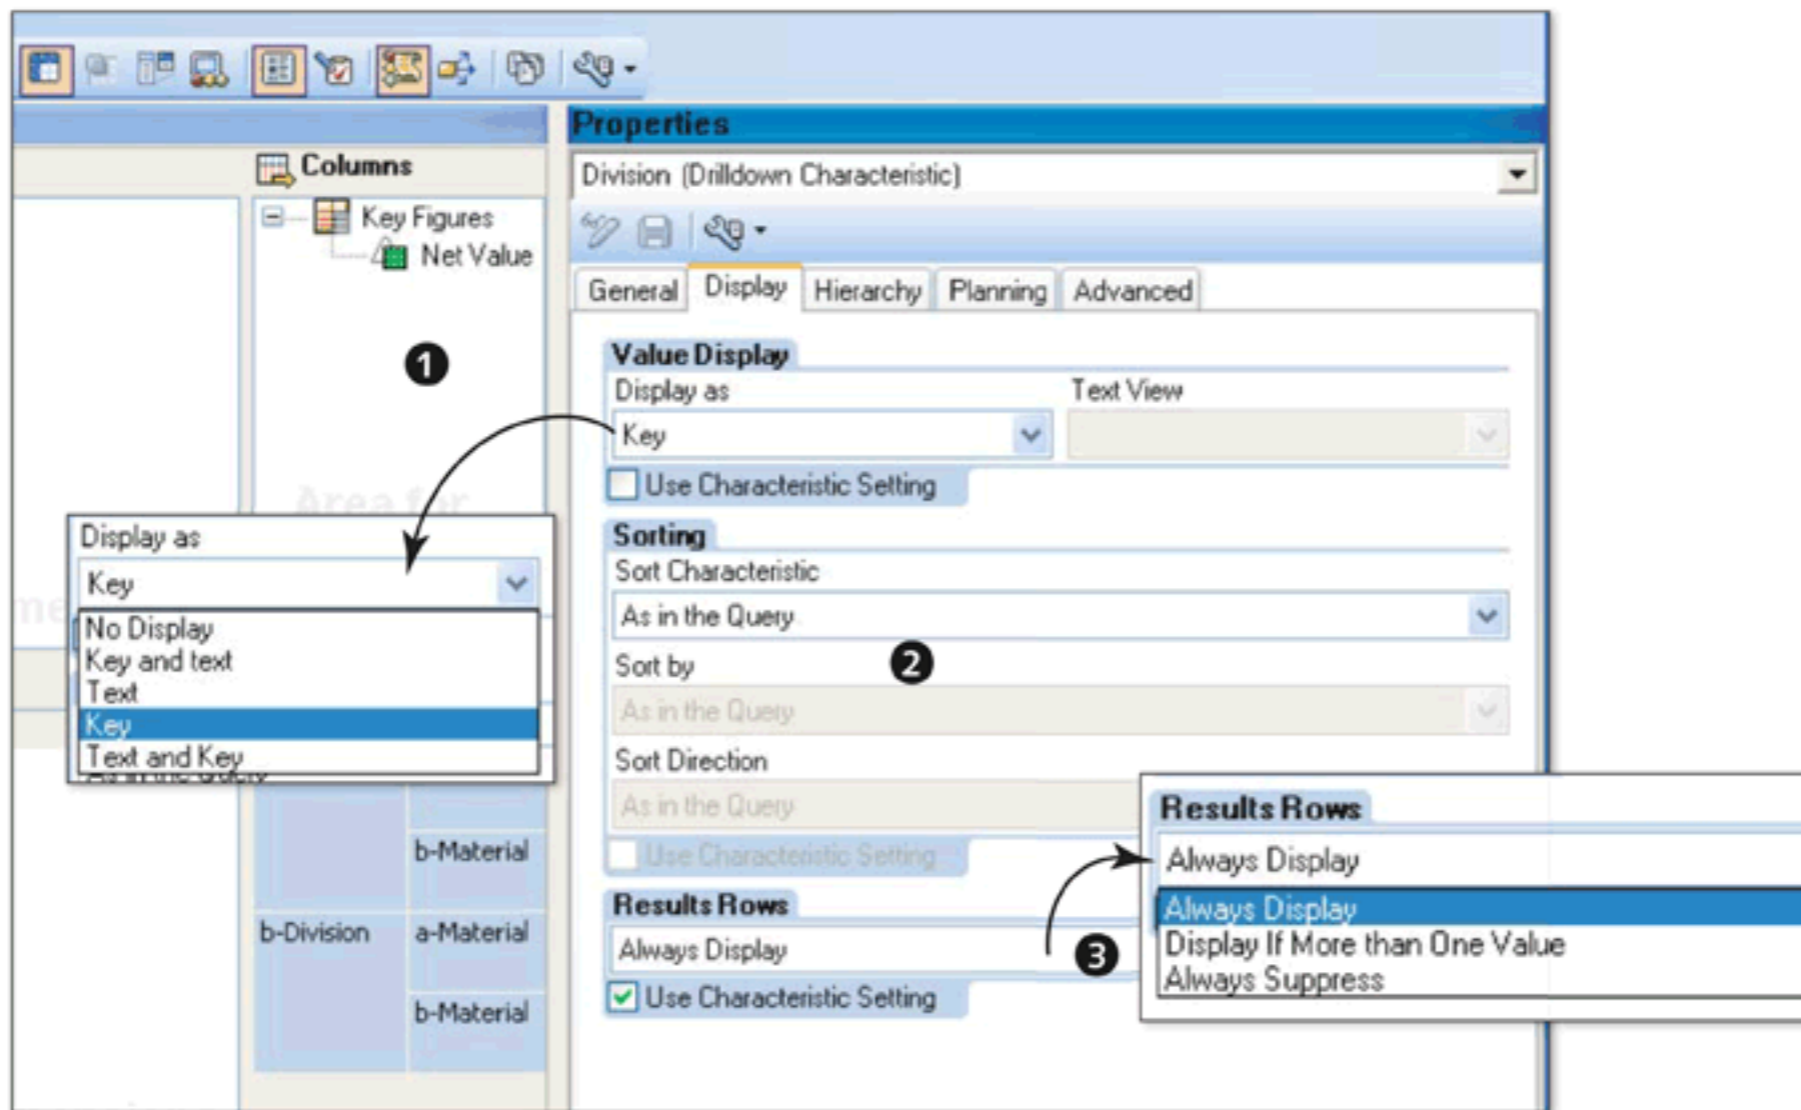

Figure 9.69 Characteristic Properties: Display Tab
In this tab, you control the display-related settings of the characteristic in the query (see Figure 9.69). There are three sections available on this screen.
In the VALUE DISPLAY section, you can select the way characteristic values should be displayed (❶ of Figure 9.69). Also, in the TEXT VIEW field, you can specify which text (short, medium, or long) should be displayed.